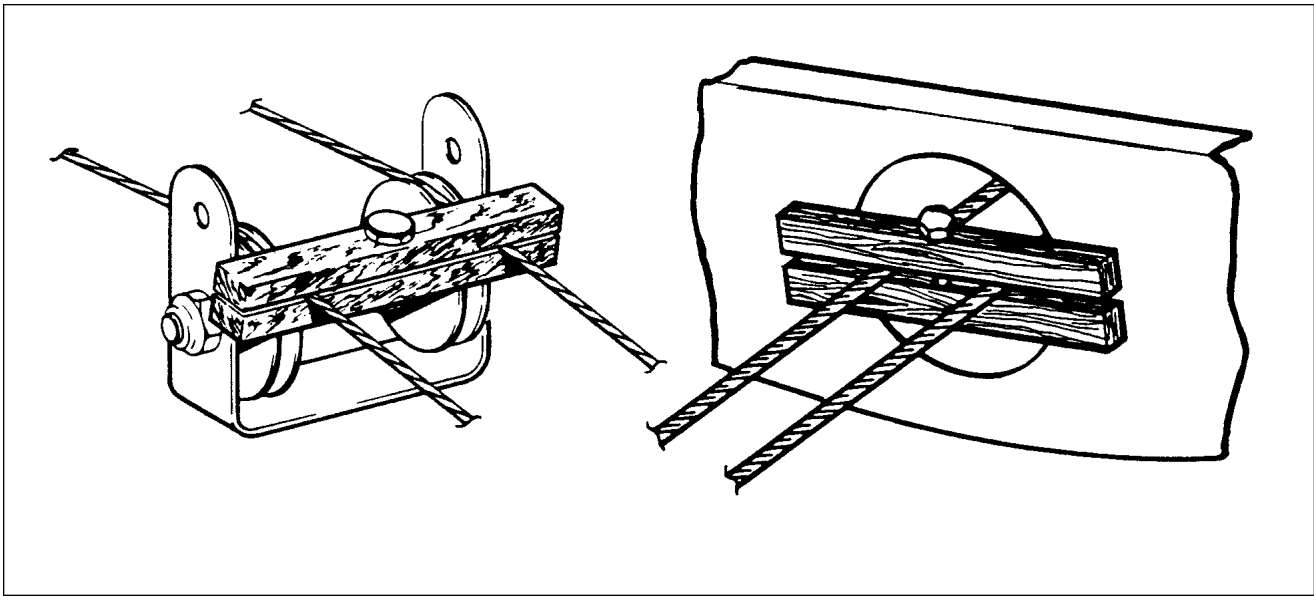

Figure 5-14. Methods of Securing Trim Cables
b. If the aft trim cable (12) is not to be removed, block the cables at the pulleys (13) in the upper aft section of the fuselage to prevent them from unwrapping from the trim drum. (Refer to Figure 5-14.)
c. Loosen the cables if the trim control wheel (1) is to be removed or disconnect if the cables are also to be removed. Do this at the trim cable turnbuckles (10 and 11) in the aft section of the fuselage.
d. The control wheel (1) with drum (3) may be removed by the following procedure:
2. The wheel assembly may be removed from its mounting brackets by removing nut, washer and bolt (8) that cures the wheel between the brackets. Draw the wheel from the brackets. Use caution not to damage trim indicator wire (2).
3. Unwrap the left cable (9) from the drum.
4. The wheel and drum are joined by a push fit, separate the two items with their center bushing and unwrap the right cable (8).
b. Block the trim cables at the first set of pulleys (33) forward of the cable turnbuckles (10 and 11) in the aft section of the fuselage by a method shown in Figure 5-14.
2. Bring upper cable through diagonal slot in flange at upper end of barrel (20), and wrap down in counterclockwise direction.
- b. Clamp cables between two pieces of wood to prevent unwrapping. (Refer to Figure 5-14)
- c. Check barrel bushings (19 and 29) are installed in rib plate (17) and clip (21).
- d. Lubricate bushings and install trim barrel (20) in the bushings between the two support ribs. Attach bottom diagonal rib (22) to horizontal rib (16) and secure with bolt, washers, and nuts.
- e. Install thrust washer (30), washer (31), and snap ring (32) on low end of barrel.
- f. Install trim screw (23) in barrel (20) and secure each end with cotter pin through the screw.